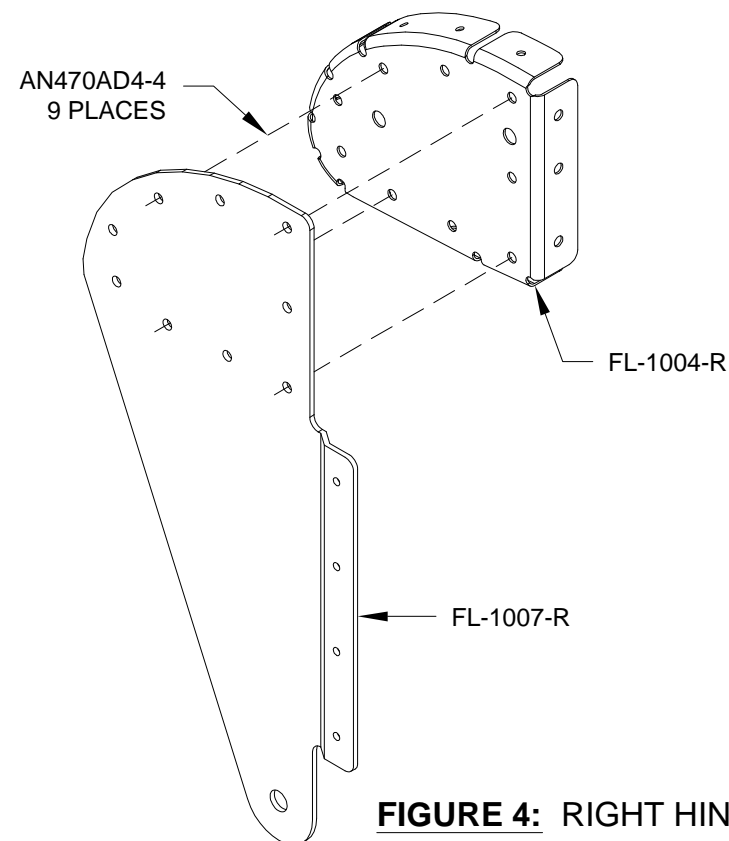
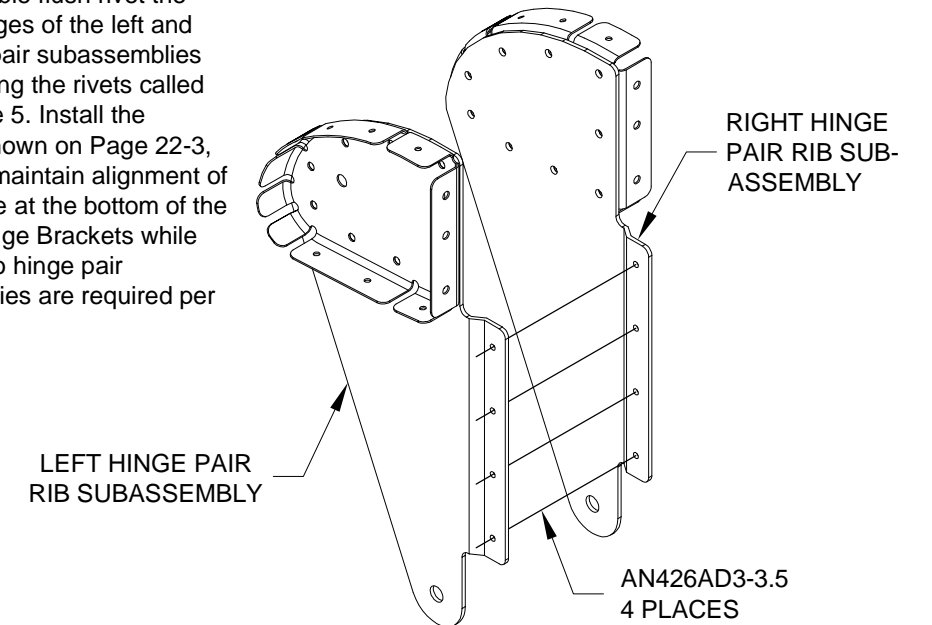

FIGURE 4: RIGHT HINGE PAIR RIB SUBASSEMBLY
FIGURE 5: HINGE PAIR SUBASSEMBLY
Step 4: Rivet together the two right hinge pair rib subassemblies using the rivets called out in Figure 4.
Step 5: Double flush rivet the joggled flanges of the left and right hinge pair subassemblies together using the rivets called out in Figure 5. Install the hardware shown on Page 22-3, Figure 4 to maintain alignment of the 1/4" hole at the bottom of the FL-1007 Hinge Brackets while riveting. Two hinge pair subassemblies are required per flap.
Step 6: Rivet together the center hinge subassembly using the rivets called out in Figure 6. Double flush rivet the joggled flanges. Install the hardware shown on Page 22-3, Figure 4 to maintain alignment of the 1/4" hole at the bottom of the FL-1007 Hinge Brackets while riveting.